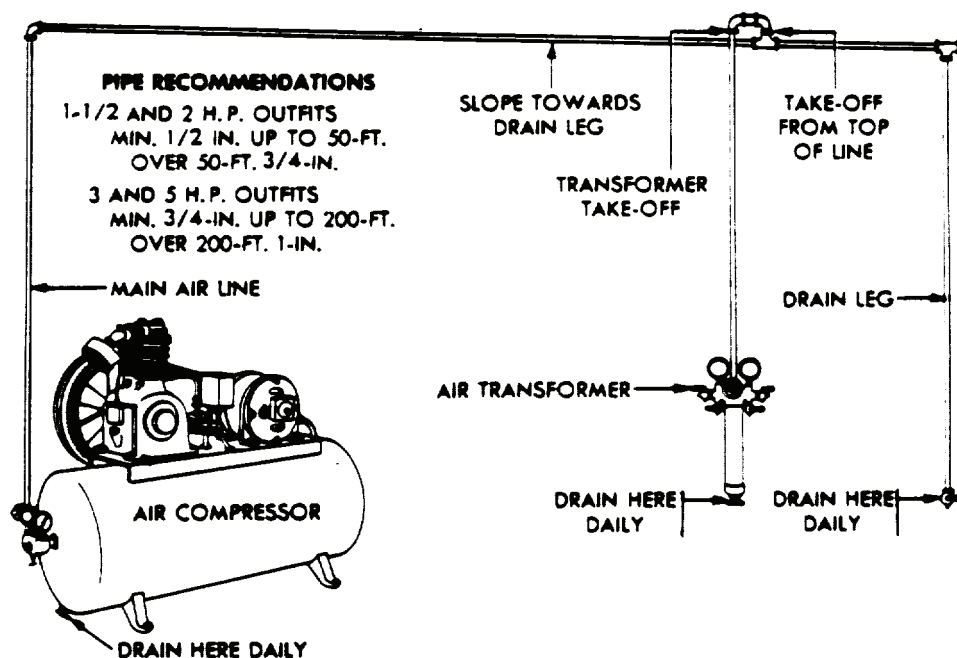

Figure 13-12. Air Transformer Installations
An air transformer, or separator, is a device which condenses oil and moisture, regulates and filters the air, and provides outlets to which spray guns and dusters may be connected. Refer to Figure 13-12, Air Transformer Installations.
Oil and moisture collect at the bottom of the air separator or transformer and should be removed daily. Refer to Figure 13-12, Air Transformer Installations.
- The compressor air line to which the air transformer takeoff is attached should slant toward a permanently installed drain leg which should be drained daily. In localities where regulated air is available and only cleaning and filtering is needed, an air conditioner may be used to supplant the air transformer. The size of all necessary air lines are shown in Figure 13-12, Air Transformer Installations.